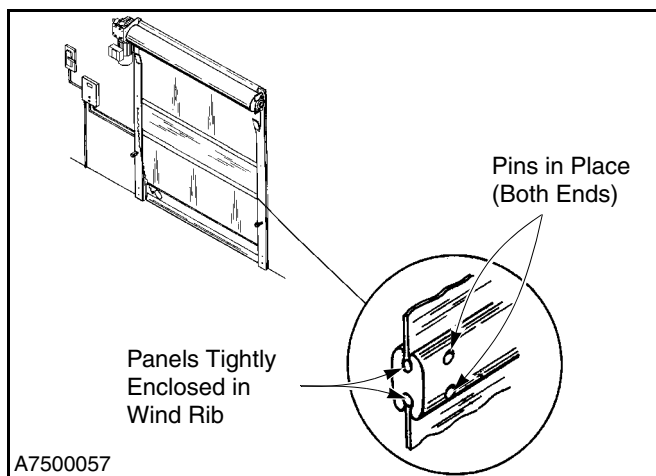

Figure 13
2. Check all panels to ensure they are tightly enclosed in the wind ribs and pins are in place in wind ribs. (See Figure 13.)